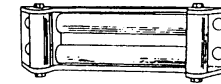

Figure 11
6. **EQUIPPING THE WINCH WITH A ROLLER FAIRLEAD** will substantially reduce wear on the wire rope during angle pulls (Figure 11). The rollers eliminate heavy rubbing and abrasion to the wire rope.